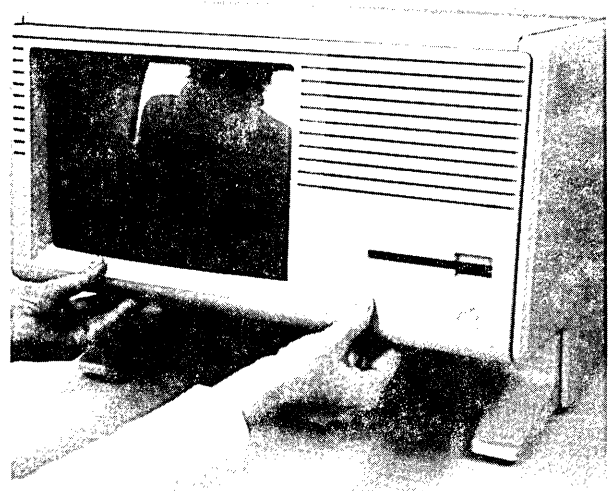

FIGURE 2
3. Place one finger on each of the two dished pads beneath the front panel (see Figure 2).